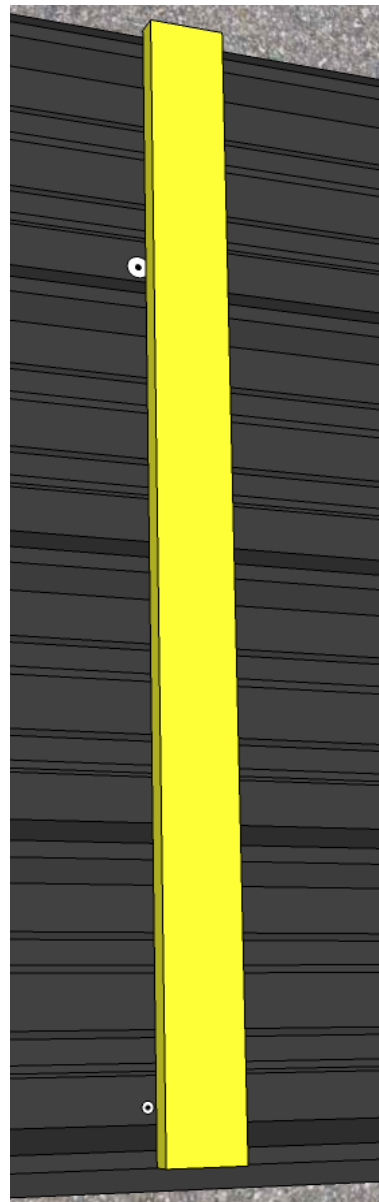

Figure 8
**A few words of caution:** It is very easy to put the marks for drilling in the wrong place. Always measure from the bottom end of the panels if possible. Always put a mark about 3/4" from the cover lap rib and then move over to the 4th rib and do the same thing on the same side of the rib as you did the cover lap. Repeat this procedure at every horizontal row of screws up the panel. Then lay a straight edge across the panels at each of these rows and mark ribs 2 and 3 (See **Figure 8**). This method tends to visually catch errors in marking. It is not necessary to mark rib 5 because it is the under-lap and it is not necessary to put a screw by it. Remember that if you drill wrong you've probably ruined the whole stack.